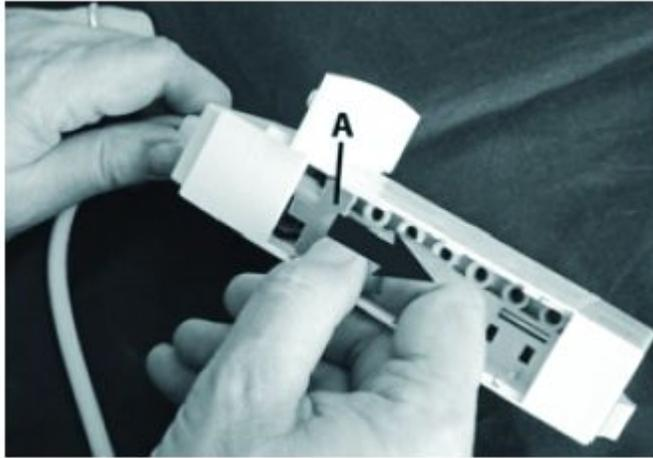

Figure 4
- Pull the locking plates (A) on both sides of the distributor block by using a suitable tool (see figure 4).